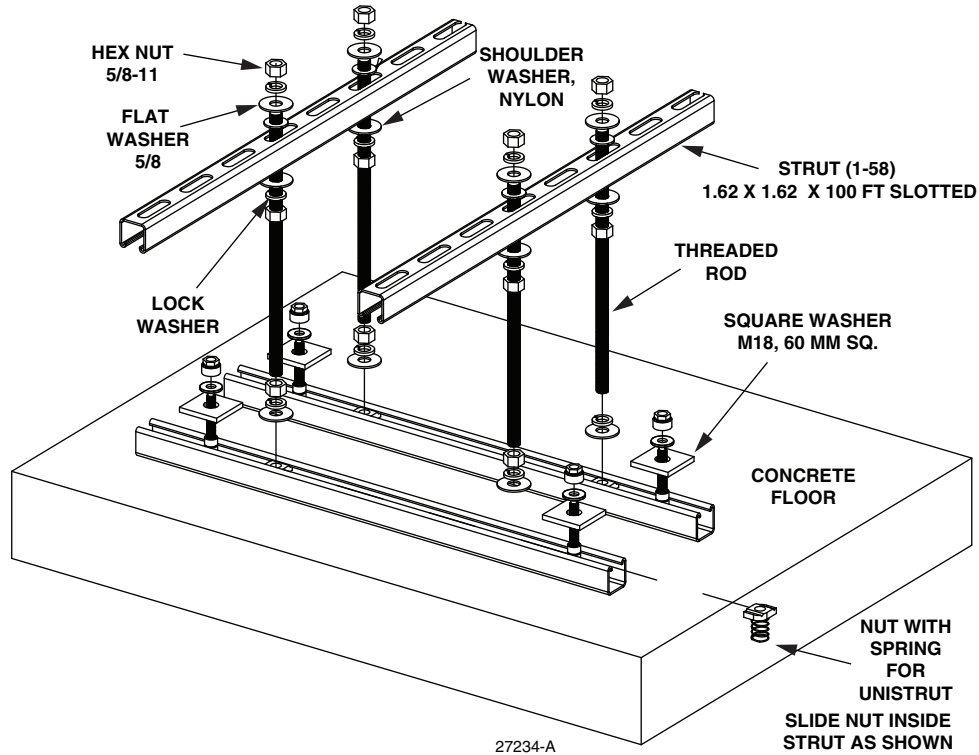

Figure 12. CommScope Raised Floor Mounting Kit, 5/8" (FDF-ACC146) Components
7. The Flex Frame-S can be mounted on a raised floor using the CommScope Raised Floor Mounting Kit, 5/8" (FDF-ACC146). Figure 12 shows an exploded view of the kit components. To order the kit, refer to the following URL: <https://www.commscope.com/product-type/cabinets-panels-enclosures/frames-racks-cabinets/accessories/itemfdf-acc146/>